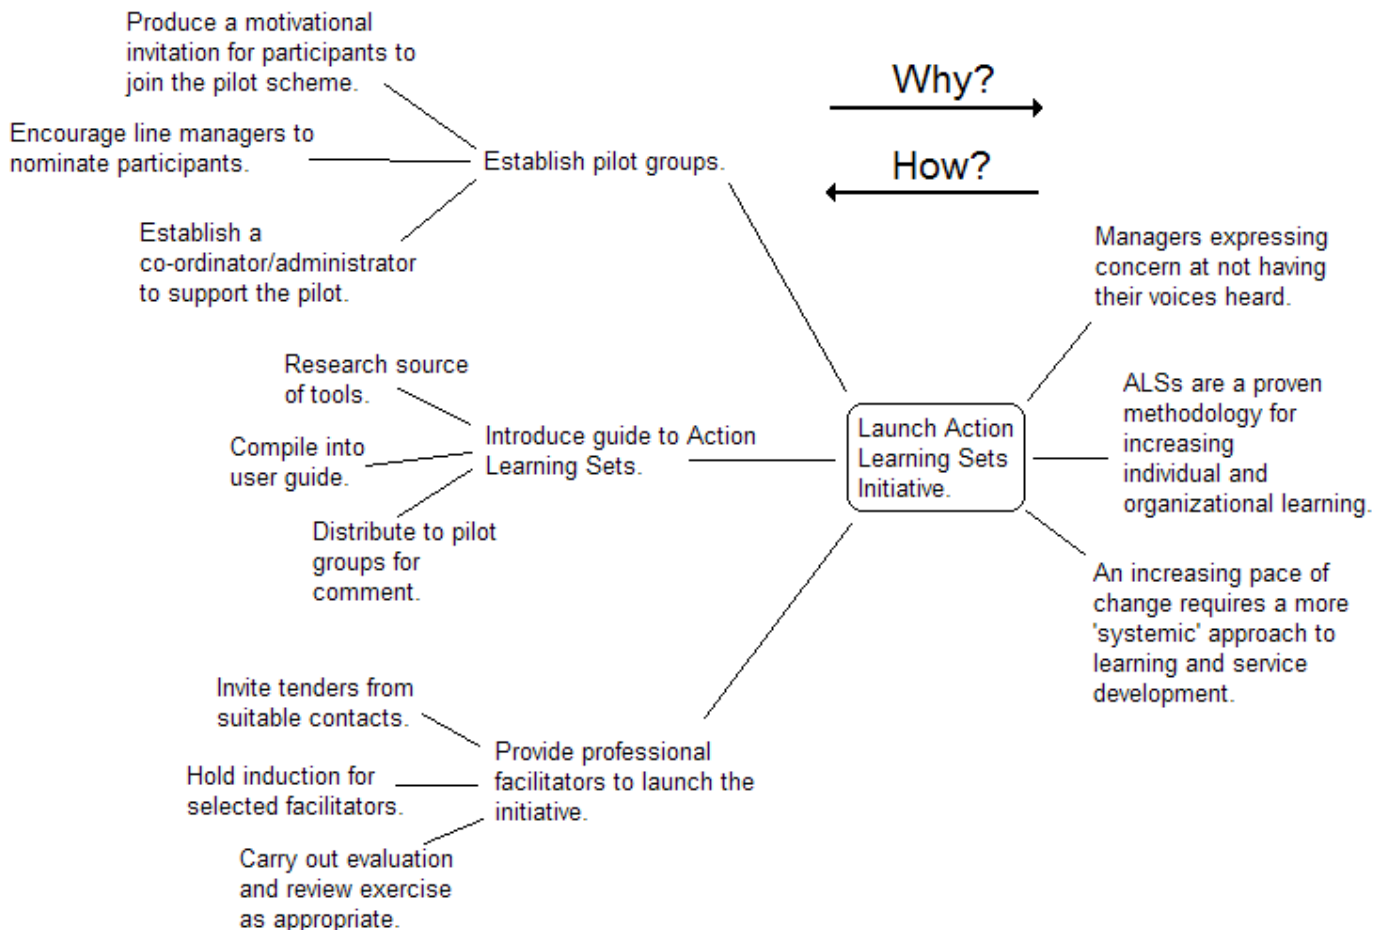

Figure 3: Example of a Concept Fan
4. For each response to 'how?', again ask 'how?', and write the responses to the left hand side of the target response (see Figure 3 below).